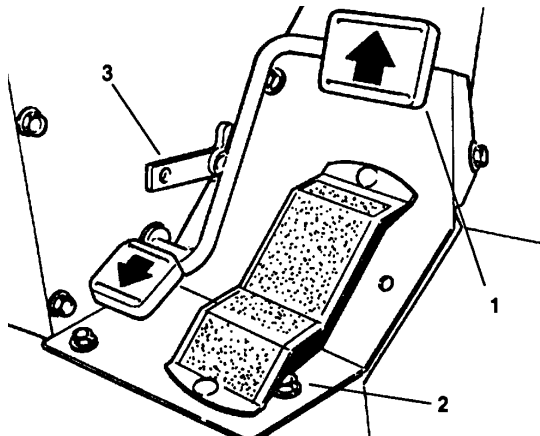

Figure 9
**Traction and Stopping Pedal** (Fig. 9, 10, & 11)—The traction pedal has three functions: one, to make the machine move forward; two, to move it backward; and three, to stop it. Using the heel and toe of your right foot, depress the top of the pedal to move forward and bottom of the pedal to move backward or to assist in stopping when moving forward. Also, move the pedal to the neutral position to stop the machine. For your comfort, do not rest the heel of your foot on reverse when operating forward.
**Speed Selector (Diesel Models)** (Fig. 9)—The cam lever at the side of the traction pedal can be rotated to maintain the desired speed.